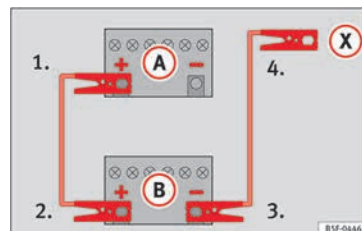

Fig. 70 Diagram of connections for vehicles without Start-Stop system.
2. Connect one end of the *red* jump lead to the positive (+) terminal of the vehicle with the flat battery (A) » Fig. 70.
3. Connect the other end of the *red* jump lead to the positive terminal (+) in the vehicle providing assistance (B).
4. *For vehicles without Start-Stop system:* connect one end of the *black* jump lead to the negative terminal (-) of the vehicle providing the current (B) » Fig. 70.